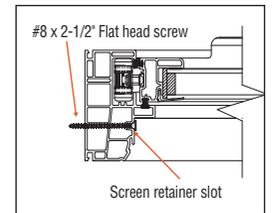

fig. 9
- d. Fasten the bottom jamb by removing the screen and inserting fasteners using #8 x 2-1/2" flat head screws through the screen retainer slot on each side, replace screen. (fig. 9)